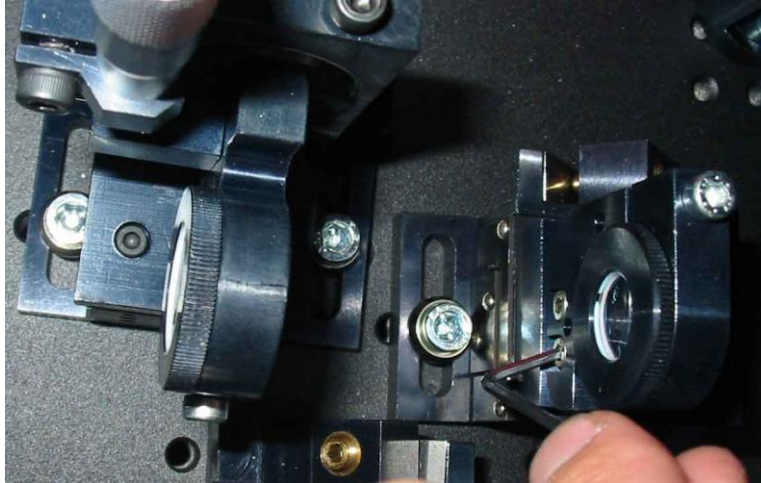

Fig.5.
- 7) Install the lens L2. Check that the pump beam passes through the flip-diaphragm properly. If it is not so try to rotate lens L2 in holder around its rotational axis to reach coincidence of beam spot and diaphragm D. *If it is not yet you need to loose the screws of L2 holder and shake L2 carefully to make the beam passing through the flip-diaphragm properly (Fig.5).*